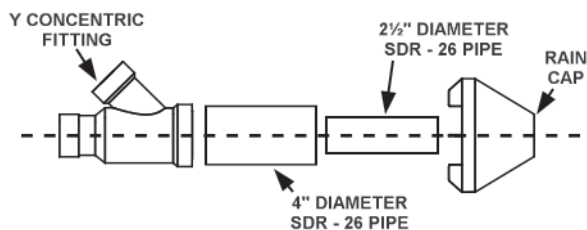

Figure 20
- a) Cement Y concentric fitting to larger diameter kit pipe, see Figure 20.
- b) Cement rain cap to smaller diameter kit pipe, see Figure 20.
- Cement the Y concentric fitting to larger diameter kit pipe, see Figure 20.
- Cement the rain cap to the smaller diameter kit pipe, see Figure 20.